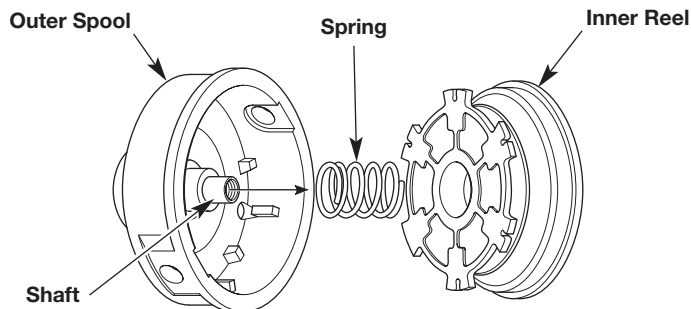

Fig. 11
3. Remove the inner reel from the outer spool (Fig. 11).
4. Remove the spring from the inner reel (Fig. 11).